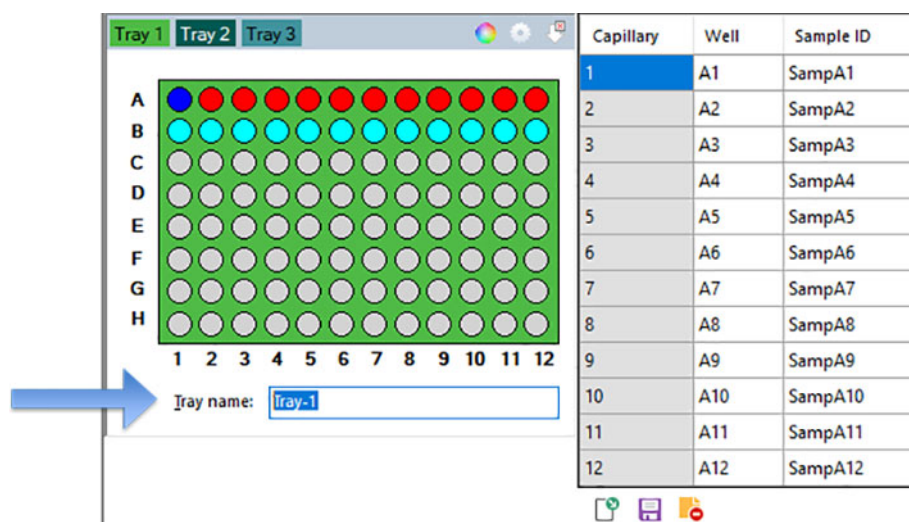

Figure 58 Highlighted tray name
- 2 In the field **Tray name** of the **Operation** tab, highlight the tray name with the mouse cursor (**Figure 58**).